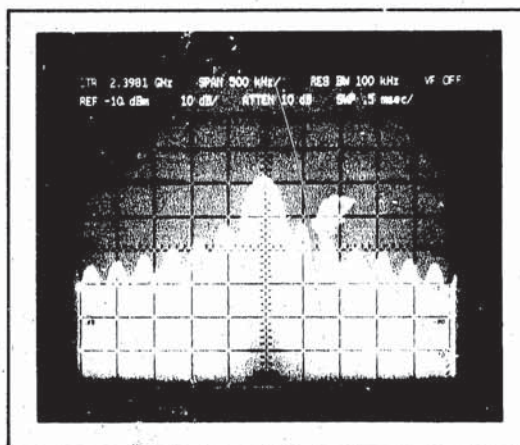
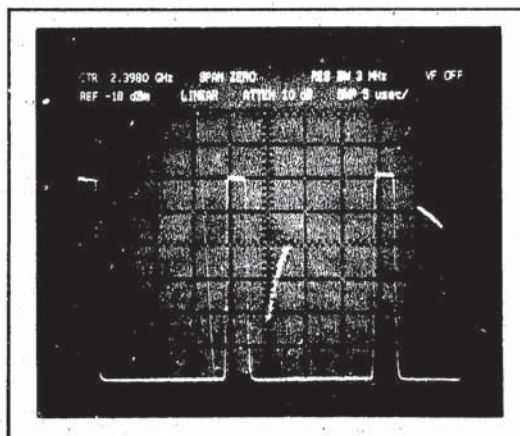

Figure 44. Pulse Spectrum
Figure 45. Demodulated Pulsed RF Signal in ZERO SPAN
Figure 44 illustrates a signal in the pulse spectrum mode. As with the line spectrum, the pulse width can be determined from the main lobe width, while the impulse bandwidth is a characteristic of the analyzer.
For a pulse width of $2.5 \mu\text{sec}$ and an impulse bandwidth of 150 kHz, $\alpha_p = -8$ dB. The peak pulse power of the signal shown in Figure 44 then, is -20 dBm.
Using the pulse spectrum enables a wider resolution bandwidth to be used. The wider resolution bandwidth provides two advantages: First, the signal to noise ratio is increased because the pulse amplitude increases linearly with the resolution bandwidth (BW) while random noise increases proportionally to the square root of the bandwidth (\sqrt{BW}). The only limitation is that the bandwidth should be no greater than about 5 percent of the main lobe width. Secondly, faster sweep times can be used because of the wider resolution bandwidths. The HP 8569A has a 3 MHz Resolution BW which enables it to effectively display pulsed RF signals in the pulse mode. The 3-MHz bandwidth, along with fast sweep times, also enables narrow pulse widths to be measured in the time domain. The demodulated pulse signal of Figure 44 is shown in Figure 45.